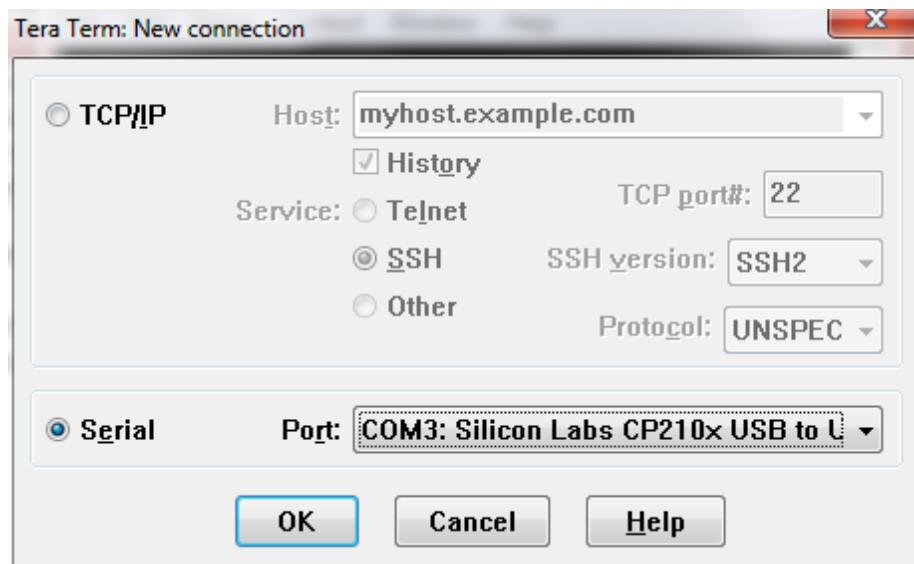

Figure 9: New Serial Connection
9. Start a terminal program (for example, TeraTerm or PuTTy) on the host PC on the determined UART COM port, as shown in Figure 9.